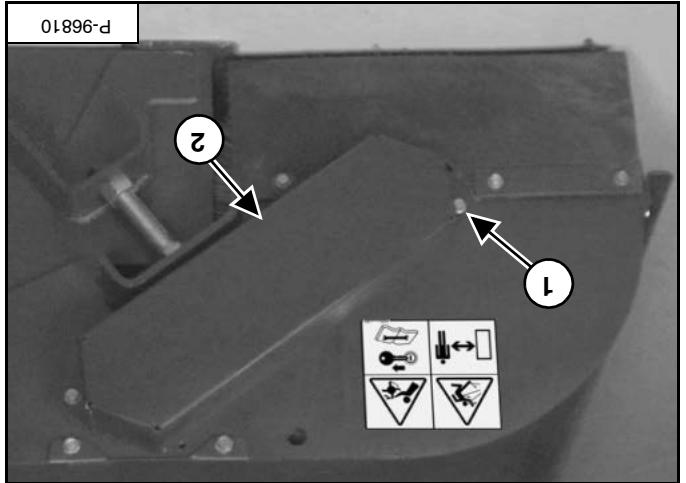

Figure 133
Remove the chain cover (item 2) [Figure 133].
Remove the bolts (item 1) [Figure 133] from the chain cover.